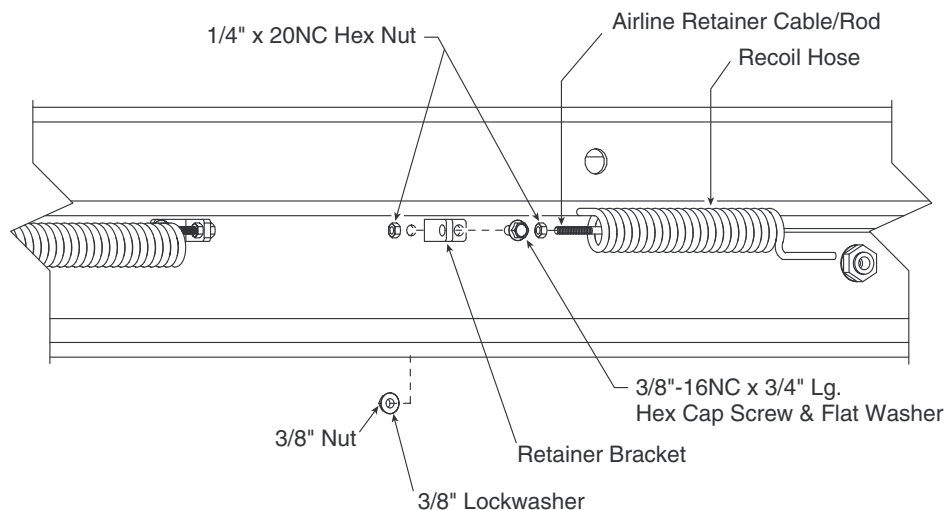

Fig. 37
- A. Attach retainer brackets for the rear recoil hose with 3/8"-16NC x 3/4" Lg. hex cap screw, flat washer, lock washer and nut, Fig. 37.
- B. Insert retainer cable through coils of recoil hose, Fig. 37. Run a 1/4"-20NC hex nut down onto each end of retainer cable. Insert each end of cable into retainer brackets. Secure each cable end with another 1/4"-20NC hex nut. Tighten jam nuts, Fig. 37.
- A. Insert retainer cable through coils of recoil hose, Fig. 37. Connect one end of recoil hose to coupling welded on rolling jack, Fig. 35 and 36.